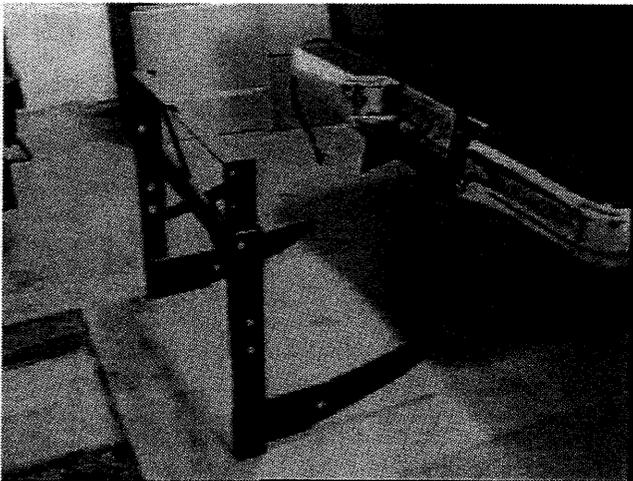

Figure 8
1. Position secondary frame behind truck and insert mount bars of secondary frame into subframe pockets. See Figure 8.